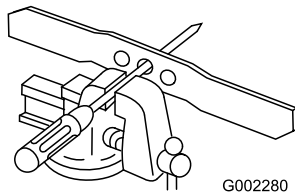

Figure 31
1. Check the balance of the blade by placing the center hole of the blade over a nail or screwdriver shank clamped horizontally in a vise (Figure 31).